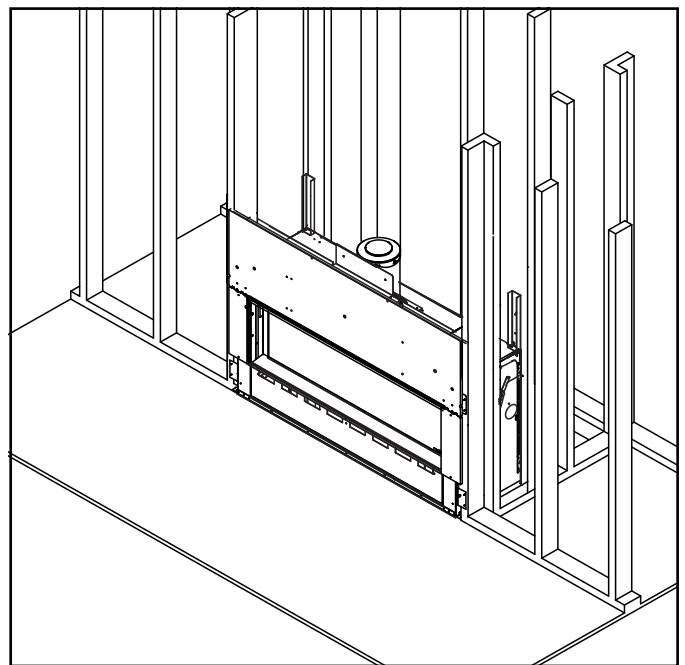

Figure 3.10 Floor Protection
**Note:** Figure 3.8 and Figure 3.9, and Figure 3.10 show the fireplace installed on the floor. However, this fireplace can be elevated off the floor provided that the fireplace is properly supported by framing materials and the ceiling clearances are maintained.